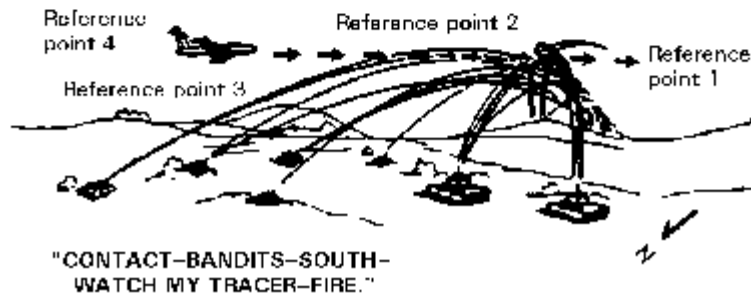

Figure 3-18. Machine gun aim points.
Step 1. The platoon initiates fire. The primary intent is to force air craft to take self-defense measures that alter their attack profile and reduce their effectiveness. The platoon leader may use a burst of tracers to designate an aim point for platoon machine gun antiaircraft fires (see Figure 3-18). Volume is the key to effectiveness of these fires; tanks throw up a